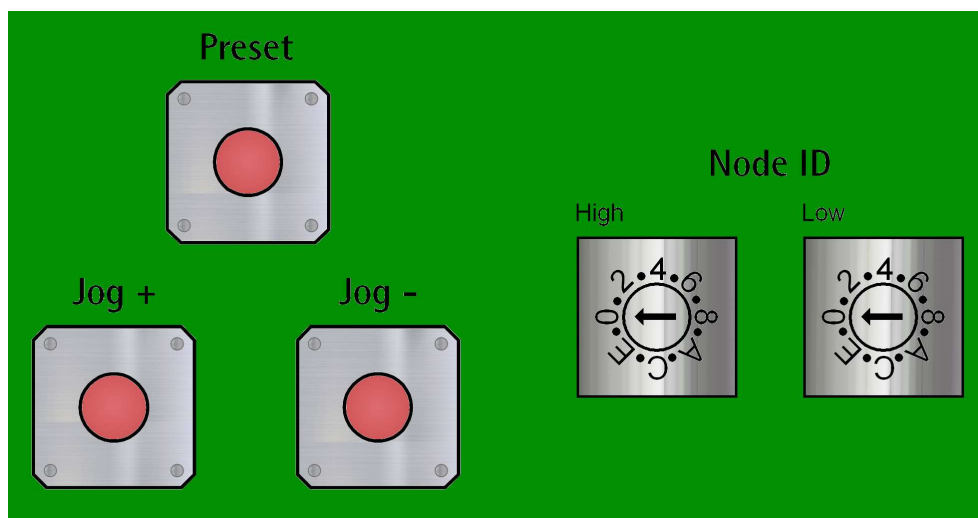

Figure 8: Preset / Jog buttons and rotary switches
For complete information please refer to the "4.4.1 Node address (Node ID): DIP A (Figure 8)" section on page 45.
The MODBUS address is according to the rotary switch setting. To set the node address of the RD1xA device refer to the "4.4.1 Node address (Node ID): DIP A (Figure 8)" section on page 45. See also the "8.2 "Serial configuration" page" section on page 145.
4.4.1 Node address (Node ID): DIP A (Figure 8)
For additional information on the IP address refer to the "4.4.1 Node address (Node ID): DIP A (Figure 8)" section on page 45.